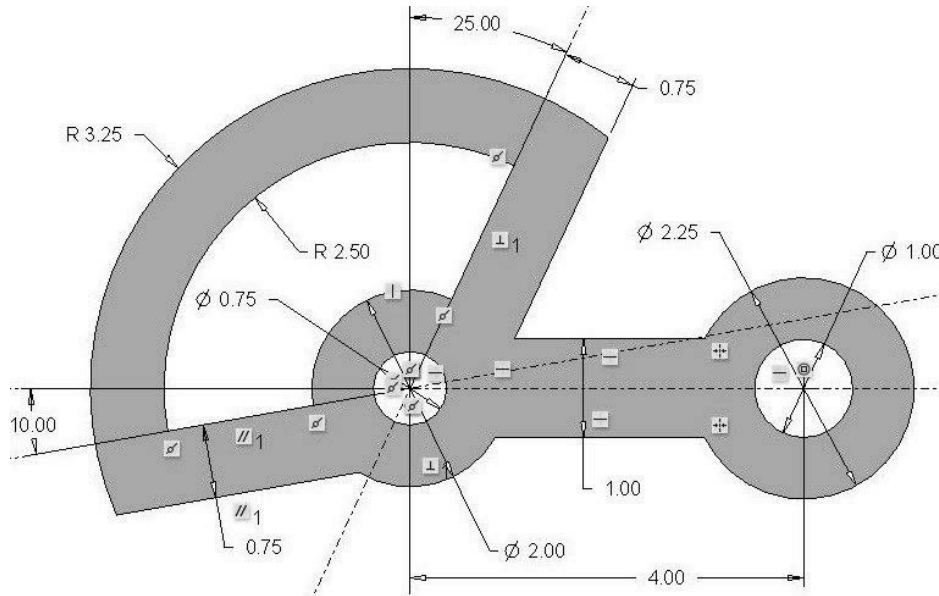

Figure 3-78 Problem 9—Adjustable Sector
- 3.9** Draw the "adjustable_sector" (Figure 3-78). **Design Intent**—The two holes need to be 4.00 inches apart. The angular slot needs to be 25 degrees clockwise from vertical to 10 degrees counterclockwise below from horizontal. To reduce stresses round all sharp corners using a 1/4-inch round or fillet. (Filletlets and rounds are not shown in the figure.) (>File>Options>Sketcher, change to 2 decimal places before sketching. *Pick OK.*)